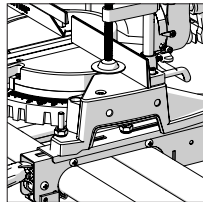

Fig. 10
- Push the back of the brackets down to engage them onto the mitre saw stands crossbars. **(Fig. 10)**